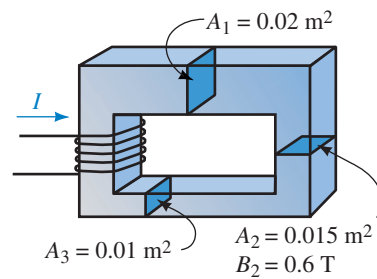

FIGURE 12-44
7. For the iron core of Figure 12-44, flux density $B_2 = 0.6$ T. Compute B_1 and B_3 .